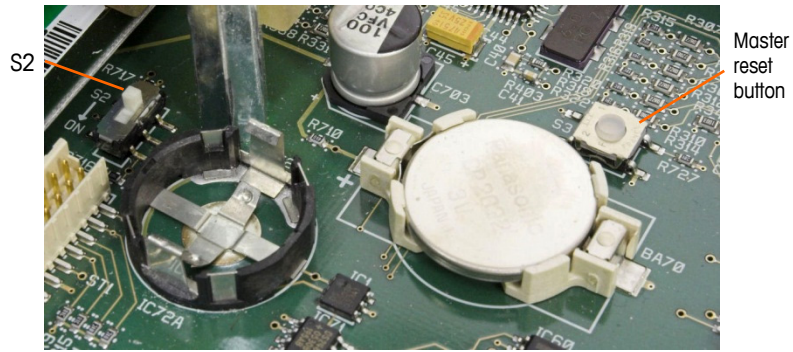

Figure 2-38: Main PCB Master Reset Button Location
To erase all programming in the terminal and reset all settings (except metrologically significant scale calibration data) to their factory default values, press the master reset button adjacent to the battery. Figure 2-38 indicates the location of this button. This process is described in Chapter 4, **Service and Maintenance**.
- To reset scale data as well, S2 (shown in its OFF position in Figure 2-38) must be set to ON before the master reset.